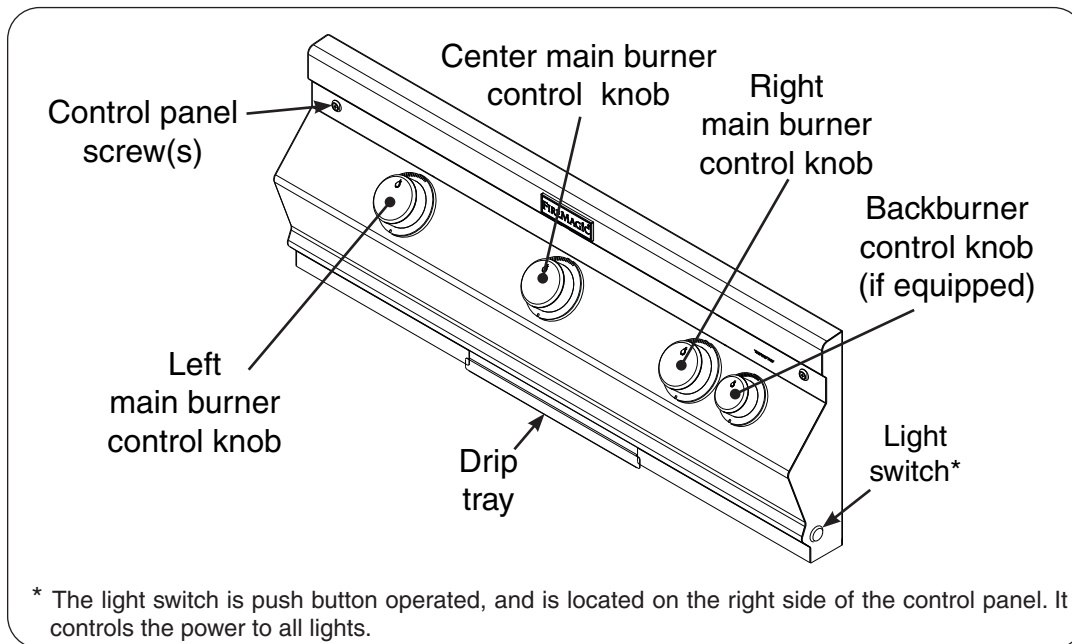

**Fig. 25-1** Electrical installation
1. Route the wire harness extension below the control panel and directly downward. This will prevent overheating. **DO NOT** route the wire extension below the grill. See Fig. 25-1, A.
2. Mount the power supply to the inside of the enclosure using appropriate hardware for your enclosure. It **MUST** be located at least 12 inches below the bottom of the unit. See Fig. 25-1, B.
3. Connect the cord coming from the power supply to a **120VAC (15 AMP minimum) GFCI GROUNDED 3-wire receptacle** (see Fig. 25-1, C). The GFCI receptacle must be a WEATHER-PROOF IN-USE COVERED RECEPTACLE.